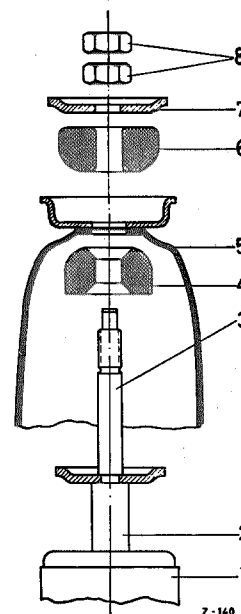

Fig. 32 — 3/1
6. Press the lower rubber ring (4) over the shock-absorber mounting bolt (3) so that the sharply-rounded side of the rubber ring is facing upward (see Fig. 32 — 3/1).
7. Now slide the shock-absorber into the upper mounting (shock-absorber dome) and have a second man screw a hexagon nut onto the mounting bolt (3).